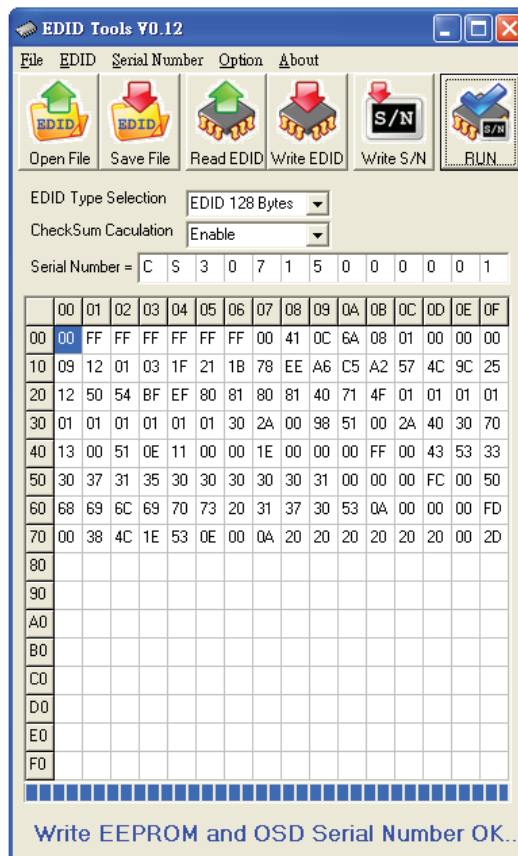

Fig.9
Step 6 : EDID and serial number update success shown as Fig.9